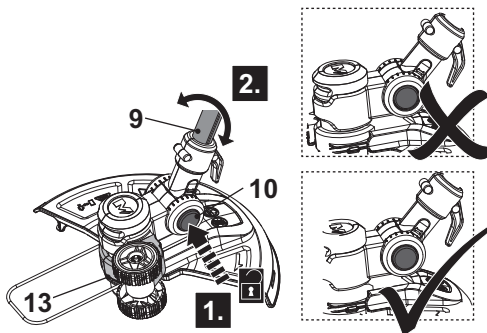

Fig. 12
1. Press the unlock button (10) and hold it in position.
2. Move the lower pole (9) slightly up or downward (Fig. 12).
3. Release the unlock button (10) and keep moving the lower pole (9) until it locks in place.